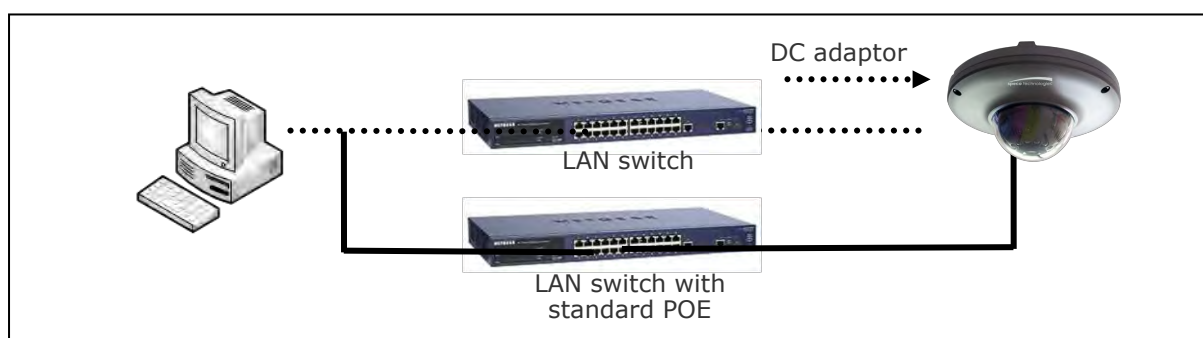

Figure 4-1. Power and network connection
2. In the case of using PoE, connect the PC and O2MD2 to the network using one of the following ways. If your LAN Switch does not support standard PoE, connect O2MD2 as shown in dotted line in Figure 4-1. The DC power is applied through DC adaptor.